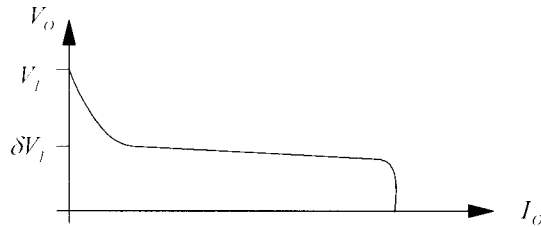

Figure 2
- (b) Figure 2 shows the output voltage of a buck switch-mode power supply as a function of output current when operated in open-loop with a set duty-cycle. Explain its shape. [4]